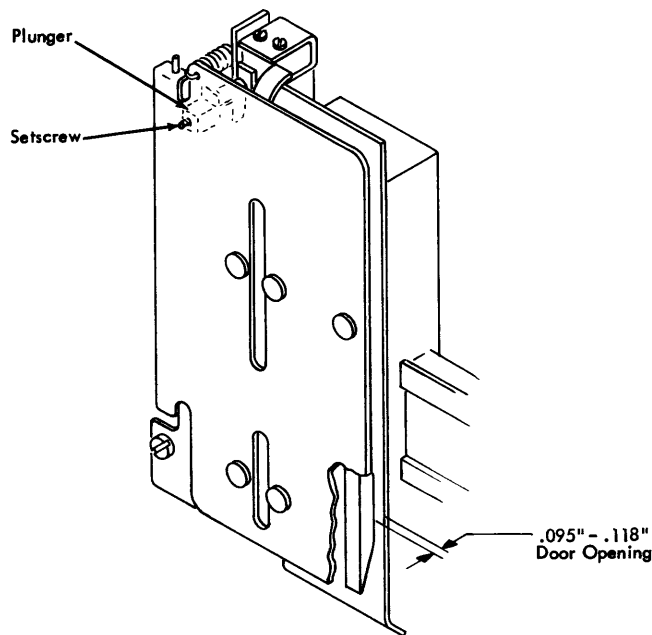

Figure 13. Jam-Detection Switch Adjustment
1. Adjust the jam-detection setscrew so that the jam-detection switch breaks when the door is opened a total of .095" to .118" (Figure 13).